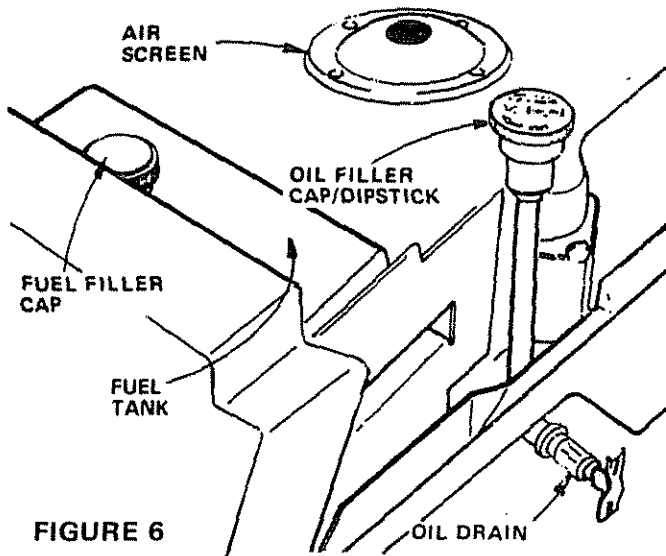

FIGURE 6
- Fill fuel tank (Fig. 6). Use fresh, clean, regular unleaded gasoline. Capacity is 5 quarts.